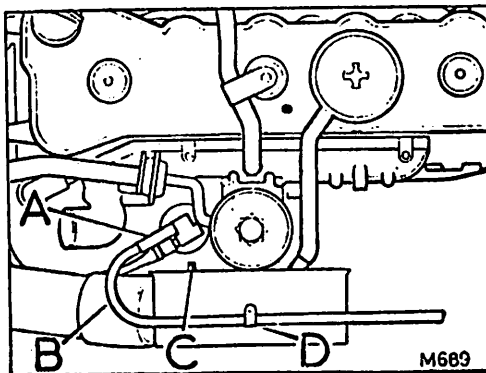

Fig. 1. Carburetter modification
3. Drill a hole in the top of the air cleaner to take the drive screw (see Fig. 1).